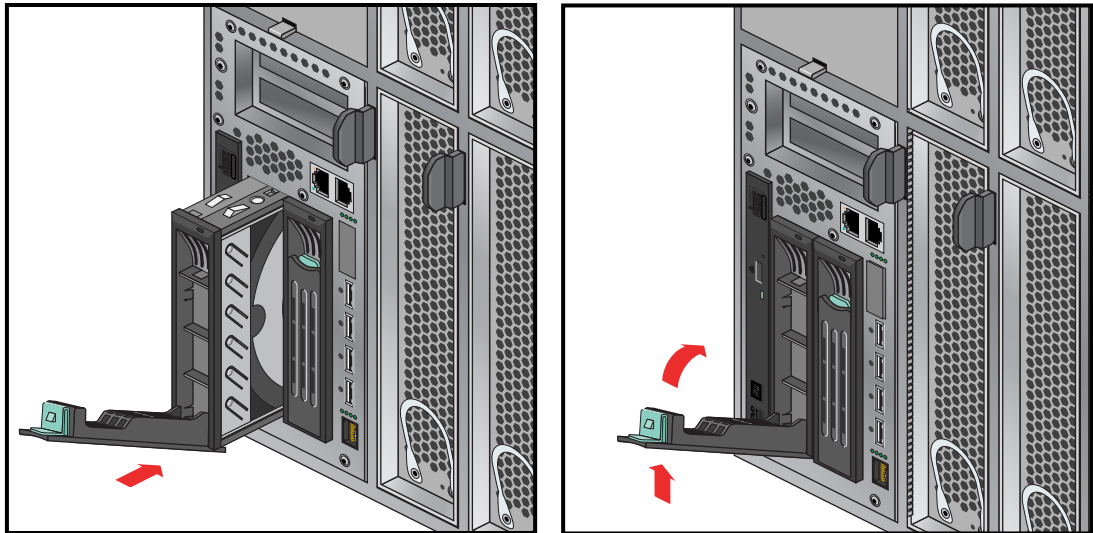

Figure 6-30 Replacing a Disk Drive
To install a disk drive, see Figure 6-30 and follow these steps:
1. Access the two disk drive bays (see panel 1 in Figure 6-30).